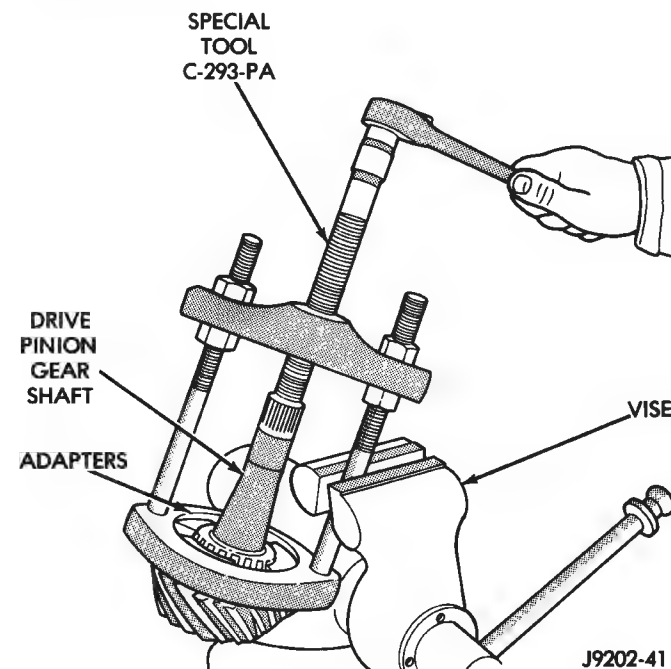

Fig. 14 Inner Bearing Removal
(2) Use Puller C-748 to remove pinion seal and discard seal.
(3) Force pinion gear shaft out the front bearing and remove bearing. **This will damage the front bearing rollers and bearing cup. The front bearing and cup must be replaced.** Discard collapsible spacer.
(4) Remove the front and rear bearing cups.
(5) Remove the rear bearing from the pinion shaft with Puller C-293-PA (J -29721) and Adapter C-293-42 (Fig. 14). Remove and record the pinion depth shims.